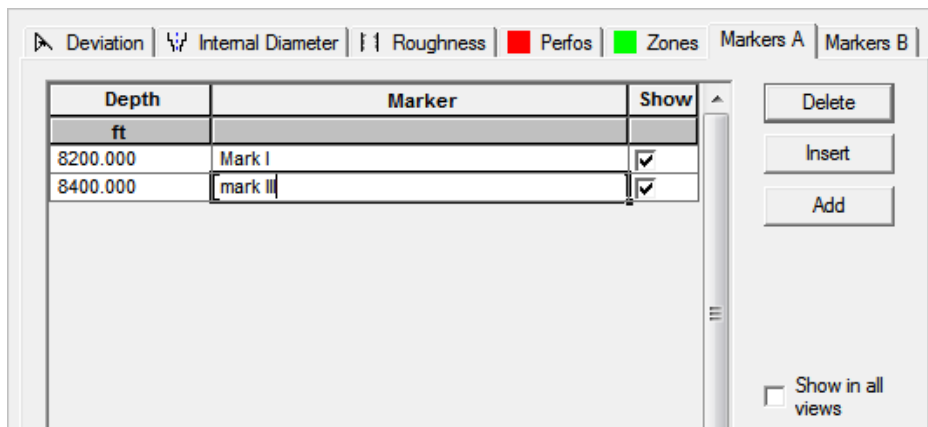

Fig. B01.18 • Markers A in 'Well Details'
- Disable the 'Show in all views' option as shown in Fig. B01.18.